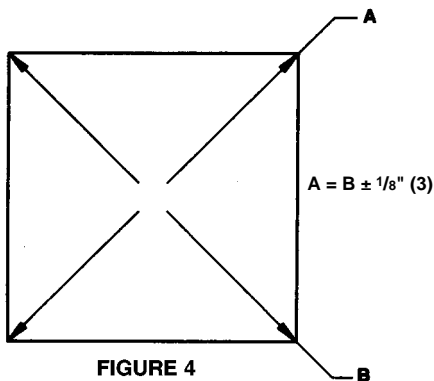

FIGURE 4
8. Individual damper sections, as well as entire multiple section assemblies, must be completely square and free from racking, twisting, or bending. Measure diagonally from upper corners to opposite lower corners of each section as shown in Figure 4. Both dimensions must be equal  $\pm 1/8"$  (3).